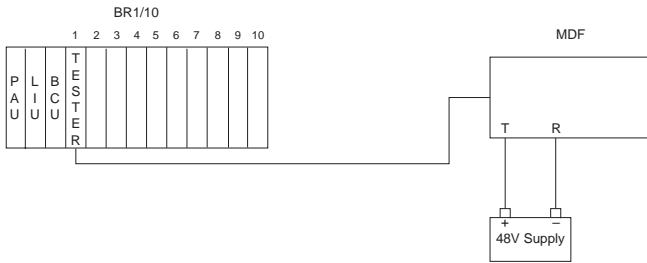

Figure 2. BR1/10 Continuity Tester In a Circuit
3. At the MDF, apply 48V across Tip ("+" or positive voltage) and Ring ("- " or negative voltage). Figure 2 illustrates a block diagram of the Continuity Tester in a circuit.